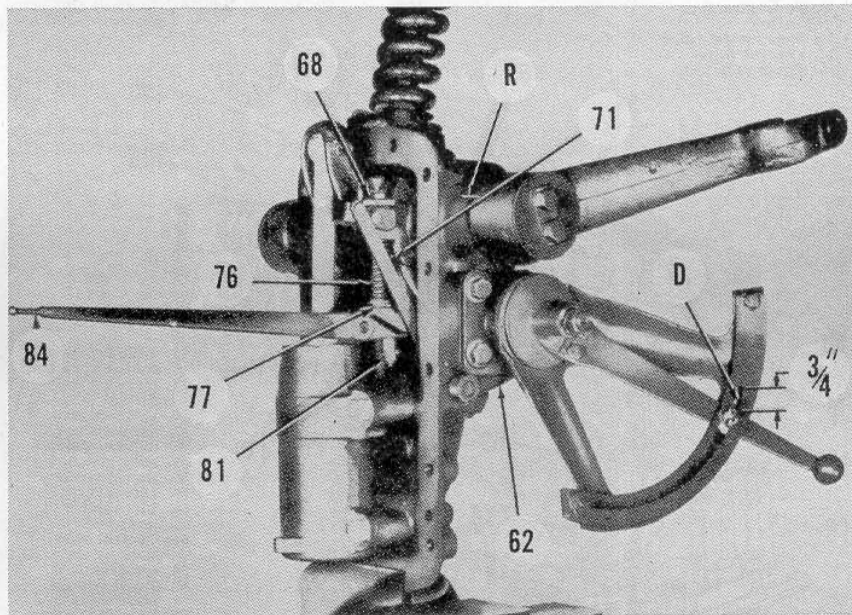

Fig. FO82—Adjusting the position (drawbar) control spring (76) on 8N tractor.
104. POSITION CONTROL SPRING. To adjust the position control spring, mount lift cover assembly in a vise as shown in Fig. FO82, and engage the position control lever (62) by moving it to the UP position. Move the touch control lever down until there is a gap "D" of $\frac{3}{4}$ inch between edge of lever and top of slot as shown. Raise the lift arms to their top operating position as indicated by marks (R) being in register. Make sure that the control arm (84) moves freely.